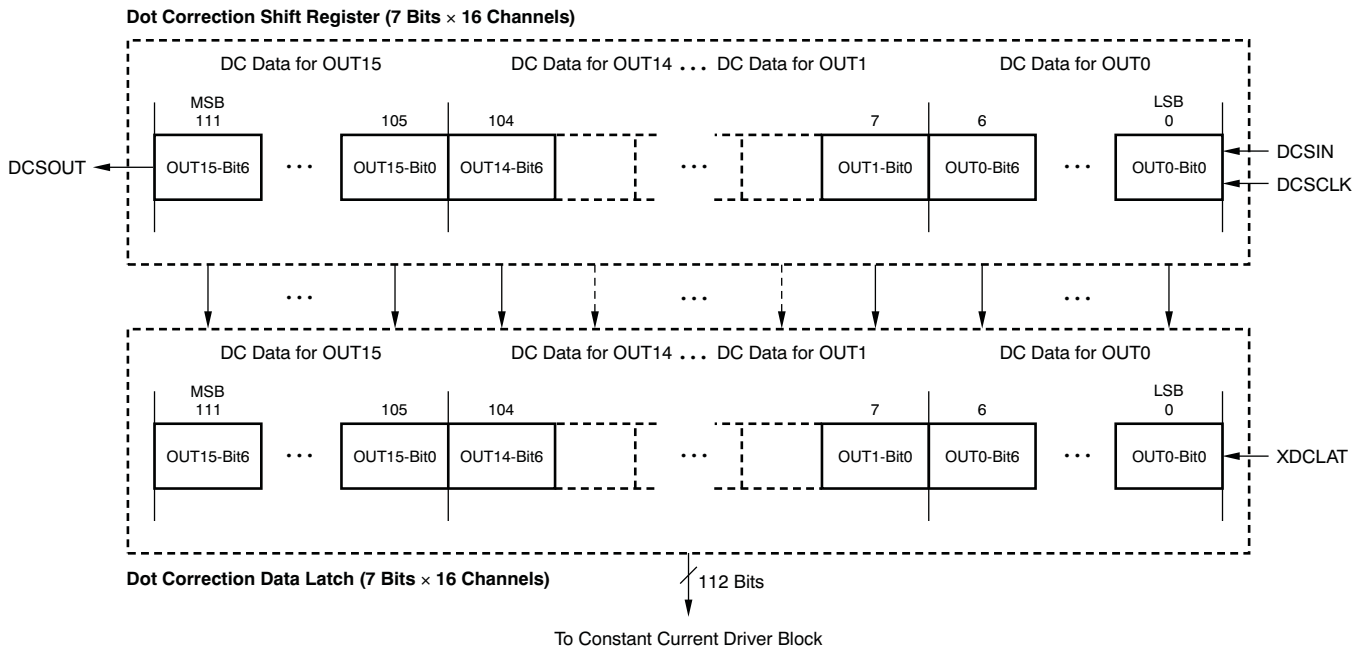

Figure 23. Dot Correction Shift Register and Latch Configuration
The Dot Correction (DC) Shift Registers and latches are each 112 bits in length and are used to individually adjust the constant current values for each constant current driver. Each channel can be adjusted from 0% to 100% of the maximum LED current with 7-bit resolution. Table 2 describes the percentage of the maximum current for each dot correction data. See Figure 23 for the Dot Correction Shift Register and data latch configuration. Figure 10 illustrates the timing chart for writing data into the DC Shift Registers and latches. Each channel LED current is dot-corrected by the percentage corresponding to the data in its DC data latch. DC data present on the DCSIN pin are clocked into the DC Shift Register with each rising edge of the DCSCCLK pin. Data are shifted in MSB first. The data are latched from the shift register into the DC data latch with a rising edge on the XDCLAT pin.